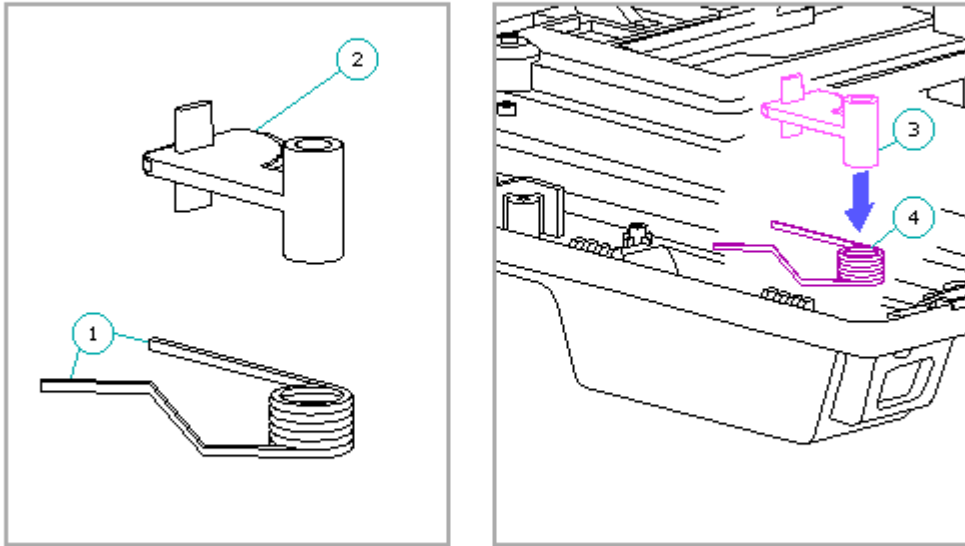

Figure 9-55. Positioning the Spring onto the Horizontal Guide (Eject Switch Side)
1. Position the spring so that the legs of the spring are on the top [1] (Figure 9-55).
2. With the curved surface of the horizontal guide [2] facing right, place the spring post of the horizontal guide [3] in the coil of the spring [4]. Ensure that both legs of the spring are to the left of the horizontal guide (Figure 9-55).